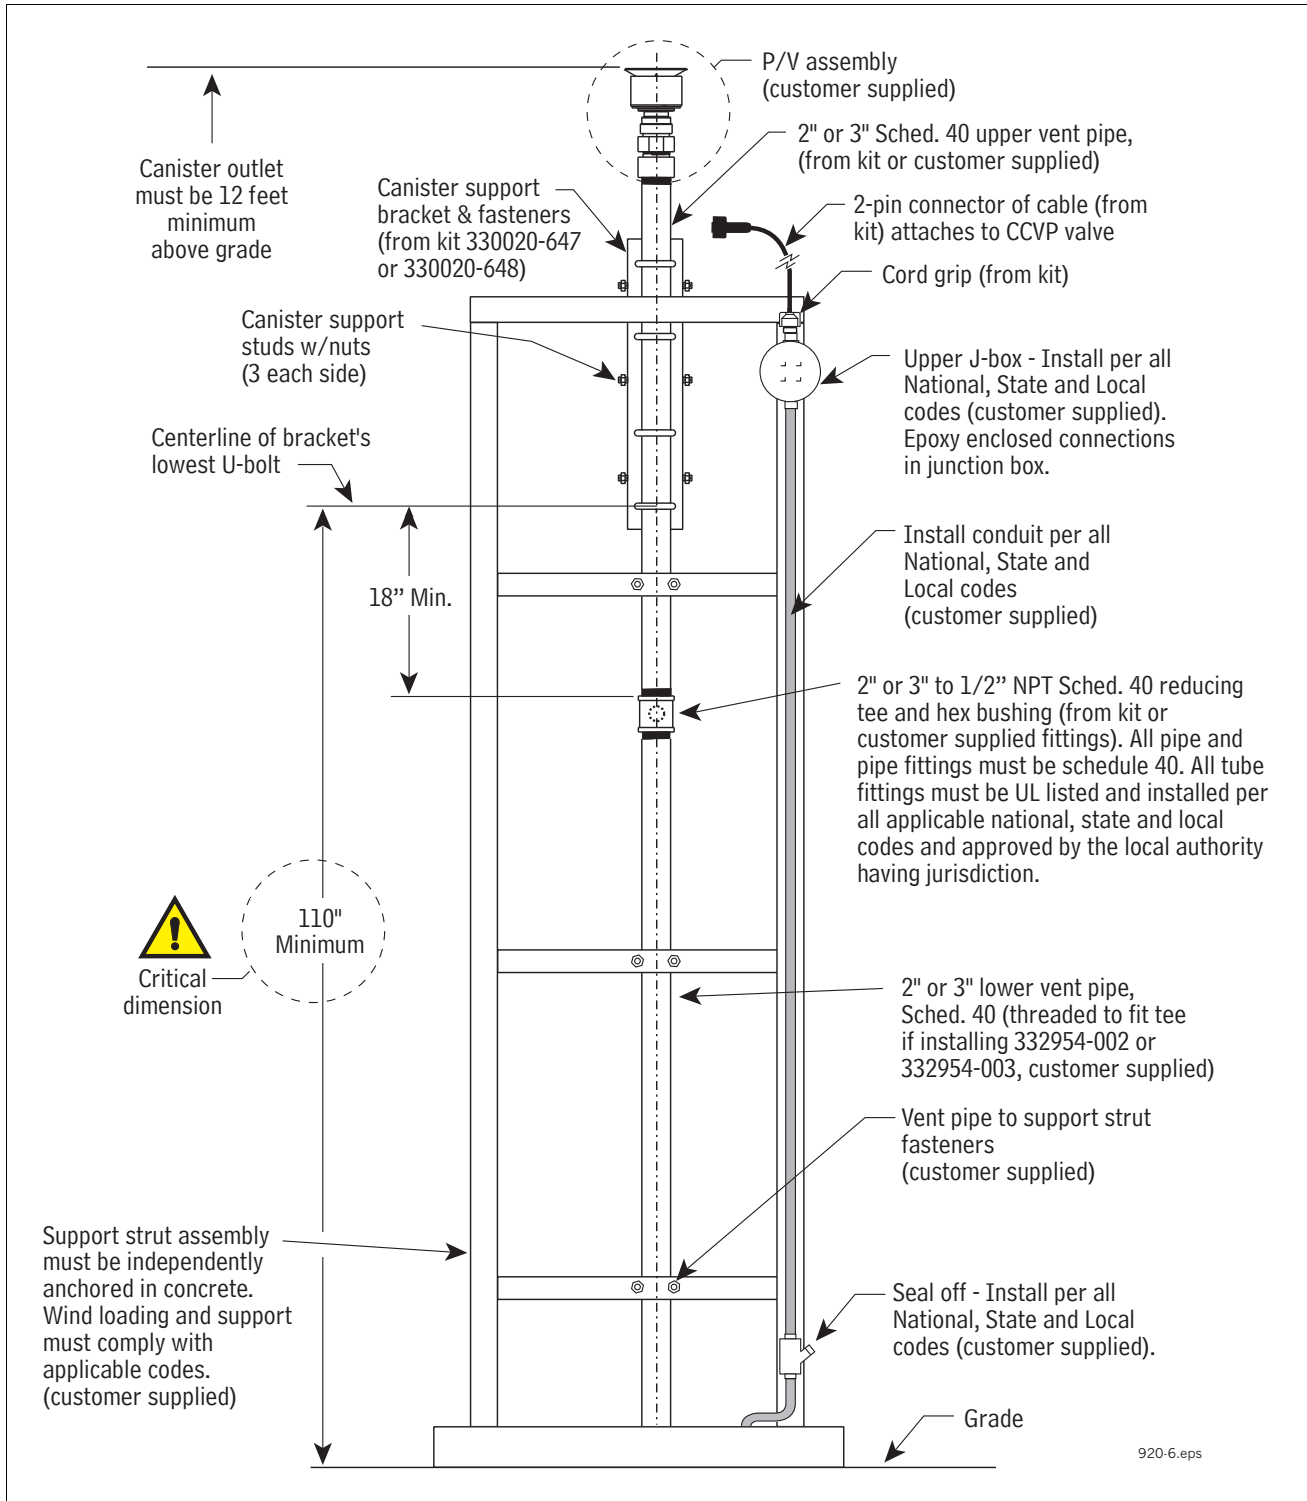

Figure 1. Typical direct wired installation example
-  6. **IMPORTANT! To ensure that the canister outlet is 12 feet (minimum) above grade, the CCVP mounting bracket must be positioned according to dimensions shown in Figure 1 and the U-bolts tightly clamped to the support structure before mounting the canister. The mounting bracket must be centered in line with the outlet of the tee before installing the CCVP.**
10. Install weather tight junction box, seal off and conduit per all NEC, state and local codes (see example installation in Figure 1).